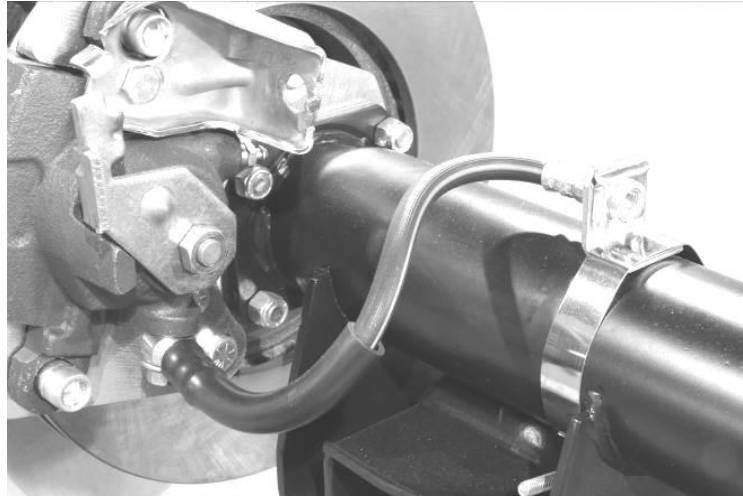

Figure 9 – Brake Hose Attached at the Rear Axle Housing (Picture is for reference only and may not reflect actual installation)
12. Install the flexible brake hose. Attach the brake hose to the caliper using the provided banjo bolt and copper crush washers. Fasten the “L” shaped brackets onto the axle housing. This can be done with large worm style clamps like shown in Figure 9 or by welding or bolting. Once the brackets are installed, use the provided clip and attach the brake hose to the bracket. Attach the hardline to the brake hose. It may be necessary to shorten and re-flare the hardline.